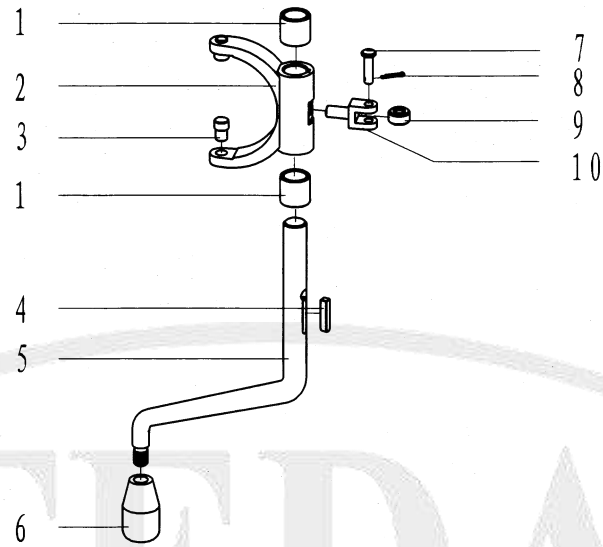

Fig.10 Shifting mechanism assembly
9.8 Shifting mechanism assembly and parts list (Fig.10,Table 8)